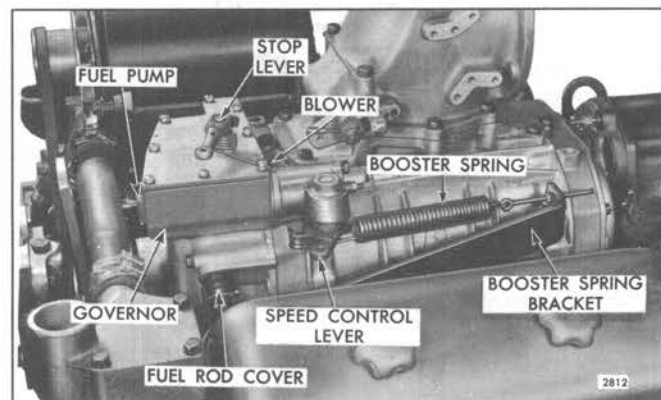

Fig. 2 - Variable Speed Governor Mounting
3. Disconnect the control linkage from the speed control and stop levers (Fig. 2).